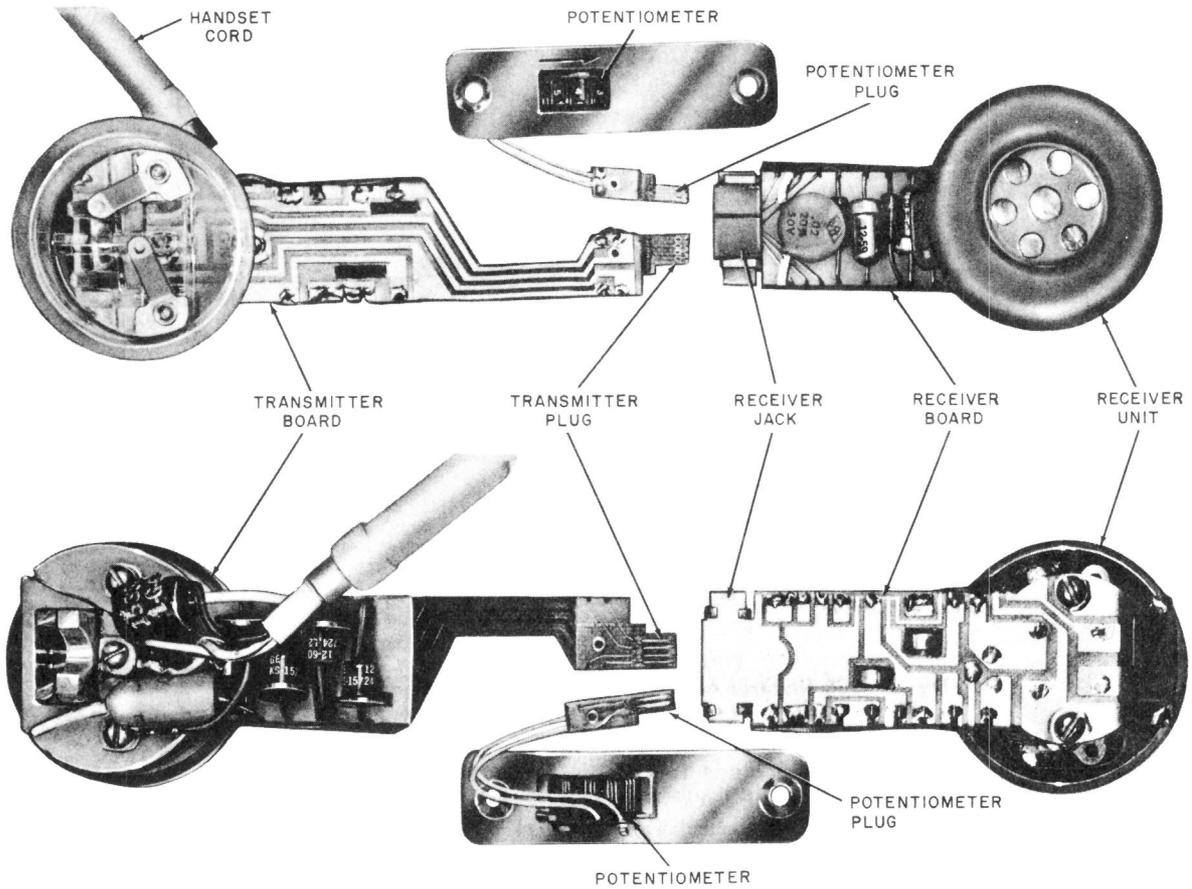

Fig. 2—G6AR Handset, Internal Assembly (G7AR and G8A are Arranged Similarly)
2.04 The G6AR (MD) handset (Fig. 2) consists of a printed circuit receiver board, transmitter board, and a potentiometer assembly mounted in the handle. Internal connections are made by a flexible circuit strip and plug-in connectors.